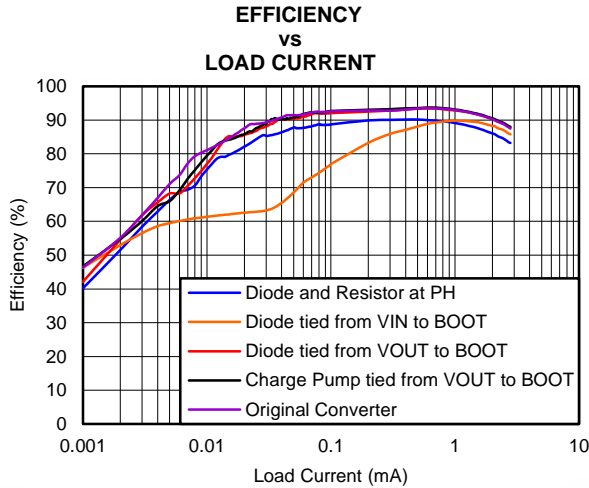
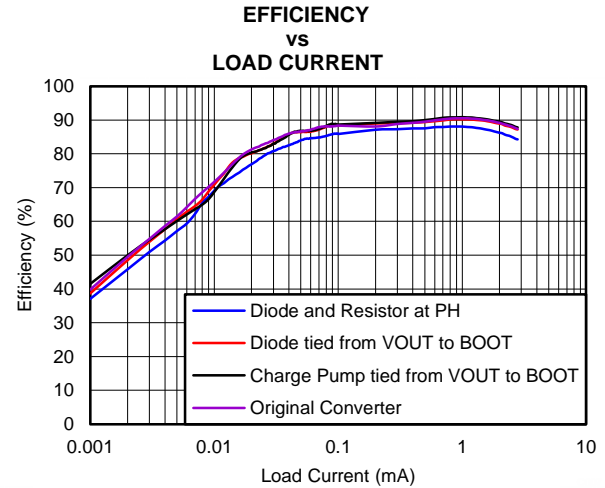

Figure 13. Efficiency With 8-V Input
Figure 14. Efficiency With 12-V Input
Figure 13 shows the efficiency of four additional solutions together with the original converter when  $V_{IN} = 8$  V and Figure 14 shows the efficiency without solution (1) when  $V_{IN} = 12$  V, because solution (1) cannot operate with input higher than 8 V as described in Section 4.2.
The efficiency of solutions (1) and (4) is lower than the efficiency of solutions (2) and (3) (Figure 13 and Figure 14). Solutions (2) and (3) have the closest efficiency performance to the original converter.